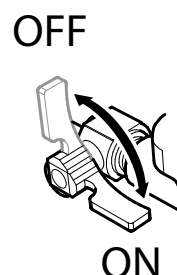

Figure 19. Water Valve (ON)
10. If the sprinkling of water is required, place water valve (Figure 19) in the ON position.
4. If applicable place water valve (Figure 19) in the **OFF** position.